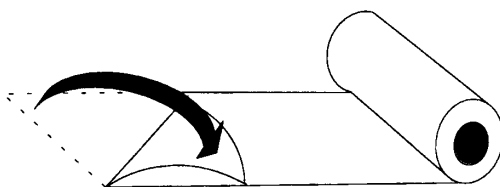

Figure 1-4: Loading the paper
2. Remove the plastic cover over the cradle for the thermal paper and orient the roll so that the paper feeds from the bottom. Fold the left corner back so that the right corner forms a point (*Figure 1-4*).